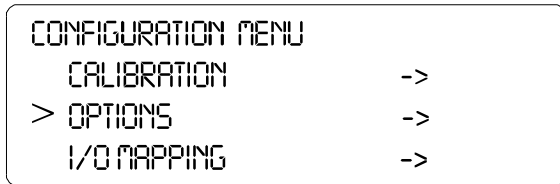

FIG. 8: CONFIGURATION MENU/SELECTING OPTIONS
Step 2. Push the up or down arrows until the cursor is next to "OPTIONS". (See Fig. 8)